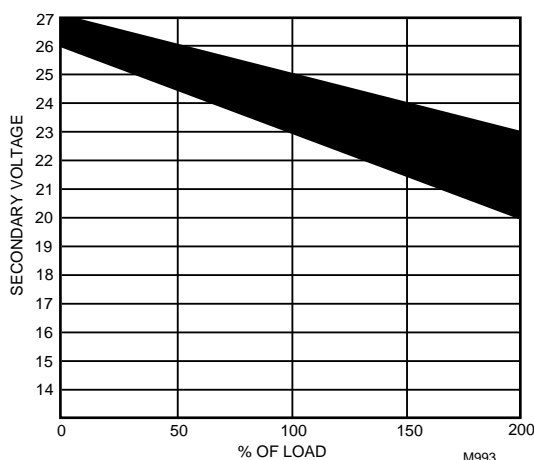

Fig. 13 NEMA class 2 transformer voltage output limits.
This means that four volts are going to be lost between the transformer and the controller; therefore, to assure the controller receives at least 20 volts, the transformer must output more than 24 volts. Because all transformer output voltage levels depend on the size of the connected load, a larger transformer outputs a higher voltage than a smaller one for a given load. Fig. 13 shows this voltage load dependence.
In the preceding I x R loss example, even though the controller load is only 37 VA, a standard 40 VA transformer is not sufficient due to the line loss. From Fig. 13, a 40 VA transformer is just under 100 percent loaded (for the 37 VA controller) and, therefore, has a secondary voltage of 22.9 volts. (Use the lower edge of the shaded zone in Fig. 13 that represents the worst case conditions.) When the I x R loss of four volts is subtracted, only 18.9 volts reaches the controller, which is not enough voltage for proper operation.
1. Use a larger transformer; for example, if an 80 VA model is used, see Fig. 13, an output of 24.4 volts minus the four volt line loss supplies 20.4 volts to the controller. Although acceptable, the four-volt line-loss in this example is higher than recommended. See the following **IMPORTANT**.
To meet the National Electrical Manufacturers Association (NEMA) standards, a transformer must stay within the NEMA limits. The chart in Fig. 13 shows the required limits at various loads.